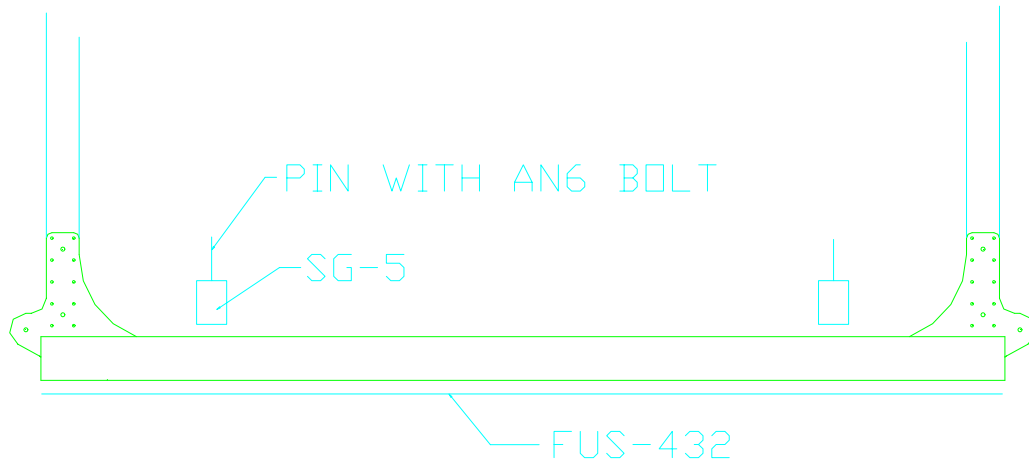

Figure 9.7.2
2) On the bottom of the cage assembly measure from the outside edge of the cage uprights and mark a center line on the bottom of the FUS-05 lower carrythrough tubes. Now measure and mark the center of the lower skin FUS-432 and align the two marks. Use the two SG-5 landing gear blocks to center the forward cabin cage on the FUS-432 floor skin. Drill through the floor into the cage. Drill all the #40 holes common to both parts, cleco as you go. Figure 9.7.2.